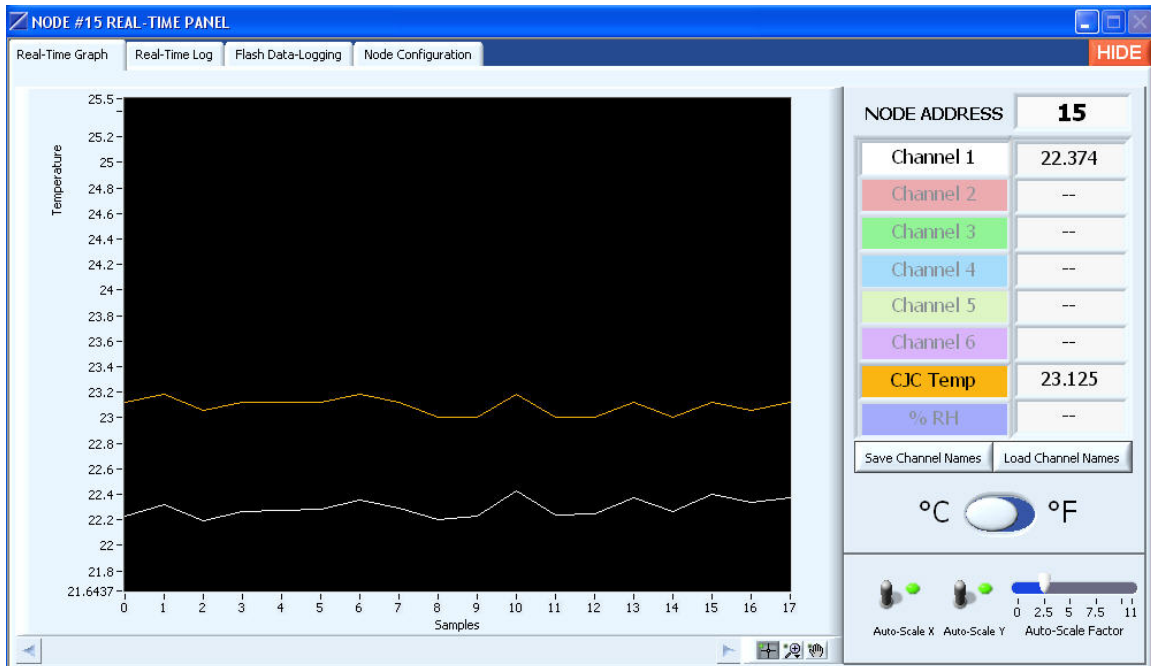

Figure 5
- Click the 15 and the Node #15 Real-Time Panel screen will appear with the Real-Time Graph tab in view. See Figure 5.